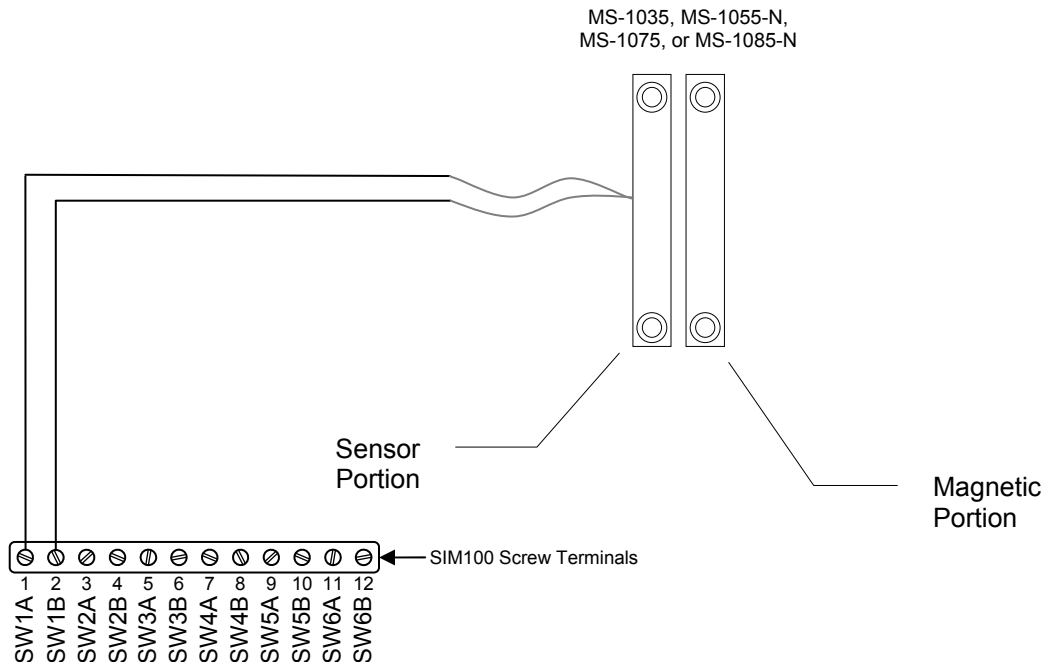

Figure 1 - Wiring Diagram
Please follow these instructions to connect any of the MS-1035, MS-1055-N, MS-1075, or MS-1085-N to the NMEA 2000 network via a Maretron SIM100 Switch Indicator Module. The wiring diagram appears in Figure 1 below. The diagram shows a connection to channel #1, but connections to other channels are similar.
1. Connect the two alarm contact terminals of the sensor portion of the magnetic switch to a free switch channel. The example in Figure 1 shows the sensor portion of the magnetic switch connected to switch channel 1 with one wire connected to “SW1A”, and the second wire connected to “SW1B”.